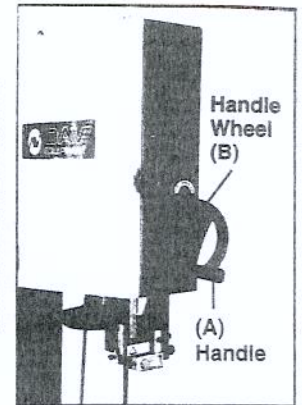

Fig. 2
- Attach the handle (A, Fig. 2) to the hand wheel (B, Fig. 2), lock the screw then connect to the machine.
The upper blade guide should always be set as closes practical against the work. To adjust, loosen the hand wheel (A, Fig. 2) at the side of housing and see the blade guide to the required height then tighten after setting.